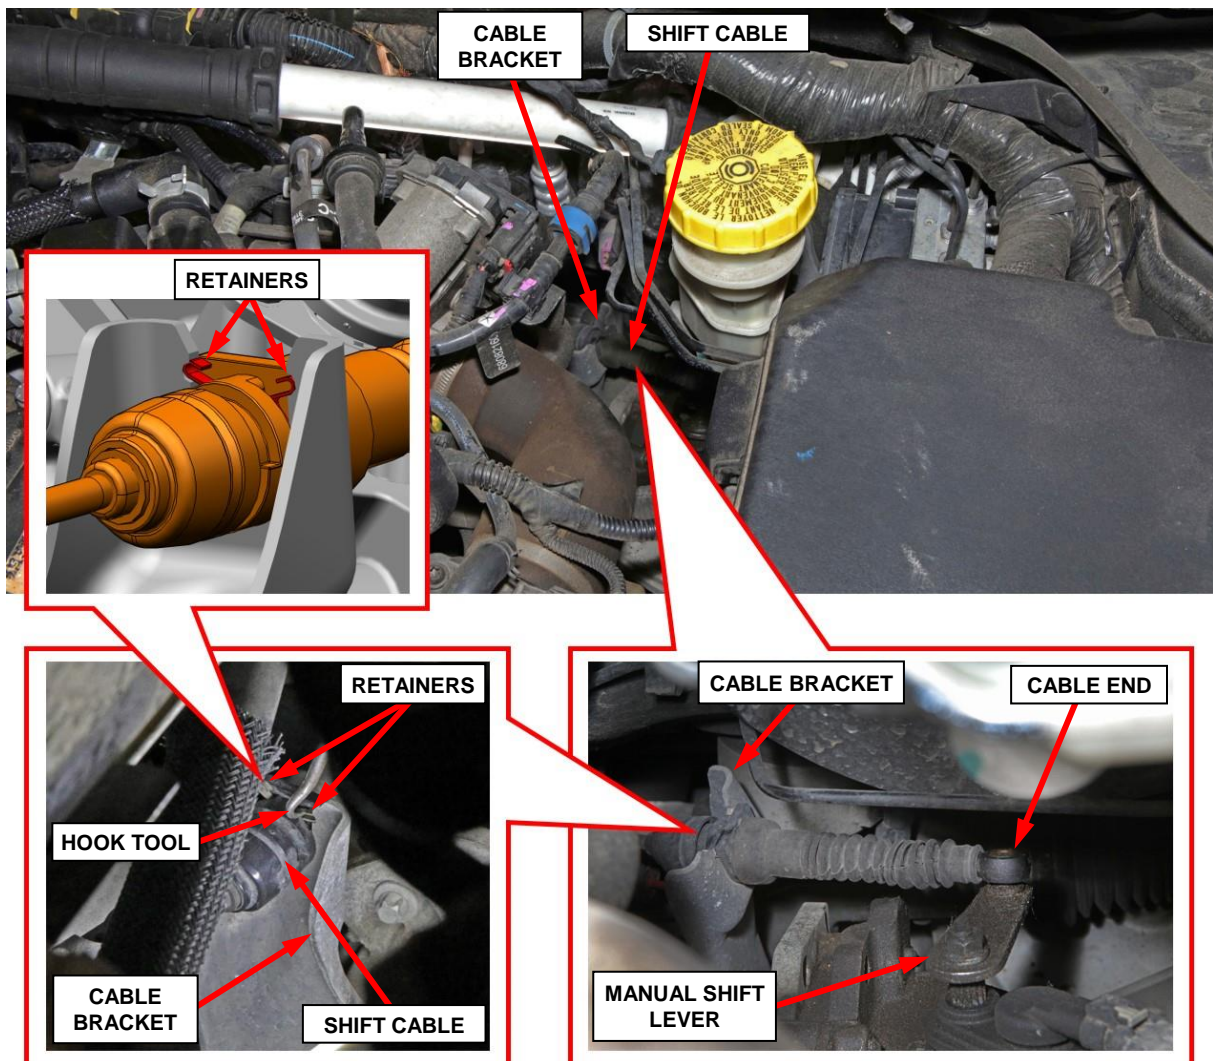

Figure 12 – Shift Cable at Transmission
4. Release the transmission gear shift cable end from the transmission manual shift lever (Figure 12).
5. Release the retainers securing the transmission gear shift cable to the cable bracket (Figure 12).
- Position the transmission gear shift cable to the transmission (Figure 12).
- Engage the retainers securing the transmission gear shift cable to the cable bracket (Figure 12).
- Install the transmission gear shift cable end to the transmission manual shift lever. Ensure the cable end bushing is securely engaged onto the manual shift lever (Figure 12).